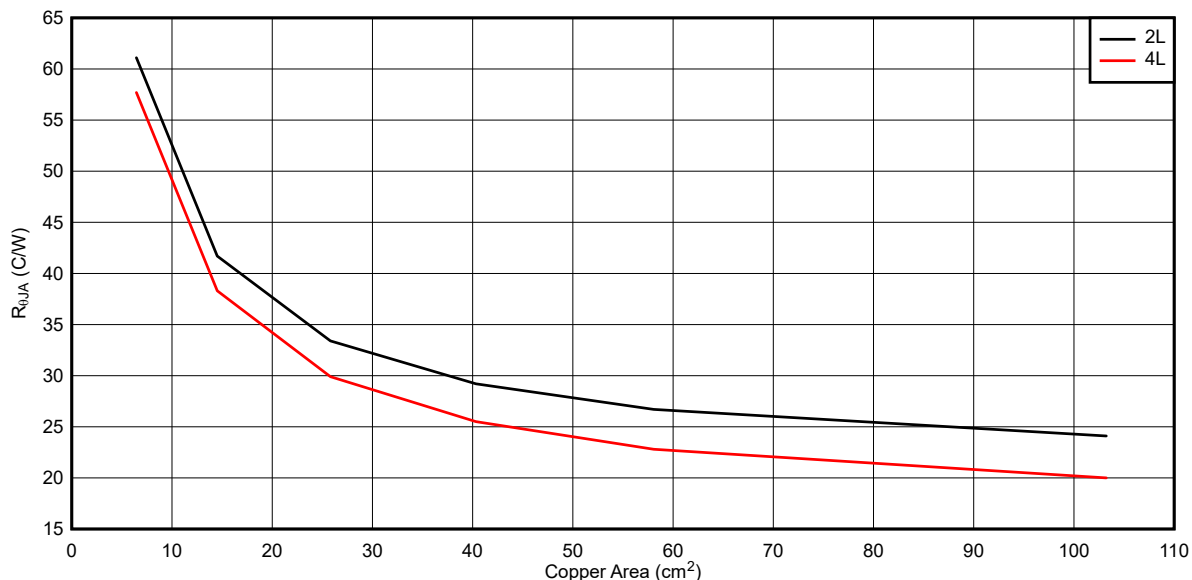

图 9-15. Typical $R_{\theta JA}$ vs Copper Area
The LM5013 features a die attach paddle, or "thermal pad" (EP), to provide a place to solder down to the PCB heat-sinking copper, which provides a good heat conduction path from the regulator junction to the heat sink and must be properly soldered to the PCB heat sink copper. Typical examples of $R_{\theta JA}$ can be found in Figure 9-15. The copper area given in the graph is for each layer. The top and bottom layers are 2-oz. copper each, while the inner layers are 1 oz. Remember that the data given in this graph is for illustration purposes only, and the actual performance in any given application depends on all of the previously mentioned factors.
To continue with the design example, assume that the user has an ambient temperature of 70°C and wishes to estimate the required copper area to keep the device junction temperature below 125°C, at full load. From the curves in Application Curves, an efficiency of about 92% was found at an input voltage of 48 V with output of 12 V with 1.75-A load. The efficiency is somewhat less at high junction temperatures, so an efficiency of approximately 90% is assumed, which gives a total loss of approximately 2.3 W. Subtracting out the conduction loss alone for the inductor and catch diode, the user arrives at a device dissipation of approximately 1.54 W. With this information, the user can calculate the required $R_{\theta JA}$ of about 30°C/W. Based on Figure 9-15, the required copper area is approximately 40 cm² for a two-layer PCB.